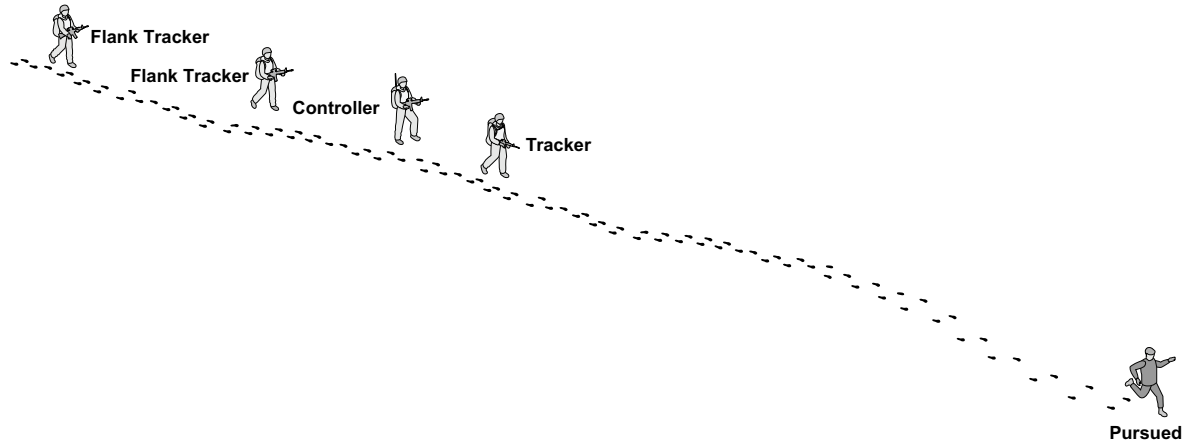

Figure 2-6. Single-File Formation.
- **Single-File Formation.** The single-file formation (see Figure 2-6) is used when the terrain or vegetation prevents both flank trackers from maintaining the pace of the tracker. It is generally used in thick brush conditions where visibility is restricted.